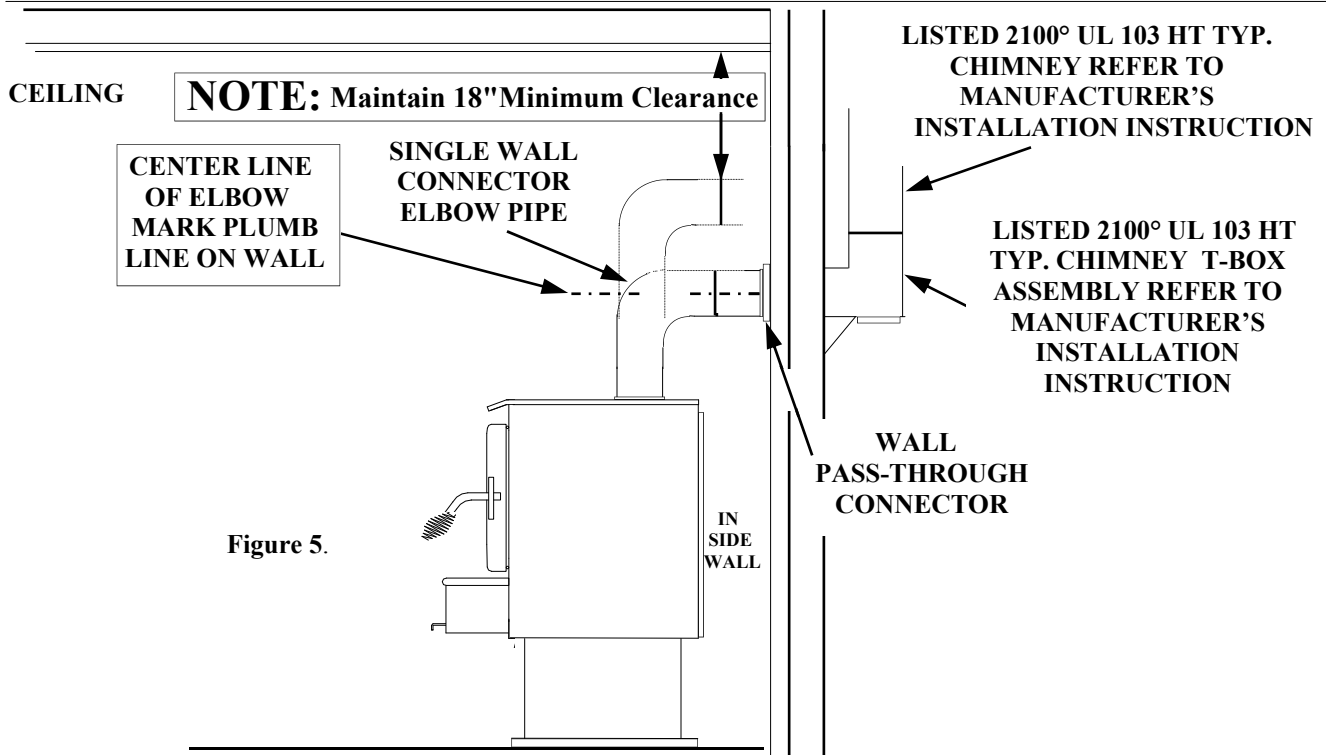

Figure 5.
(See Page 9, Figure 5).
3. Measure up so there will be at least 1/4" rise per foot of horizontal connector pipe, maintaining clearances to the ceiling as noted in (Page 9, Figure 5). This will give you the center of the hole for the chimney penetration.
5. Connect the chimney collar to the tee-box using 6" Single Wall minimum 24 ga. blue or black pipe. (DO NOT USE GALVANIZED PIPE). Connect each section so the crimped end faces downward and secure each section to each other using three (3) sheet metal screws or rivets. Single wall pipe is to be connected with three (3) sheet metal screws rivets to connector collar on heater.(See Page 9, Figure 5).